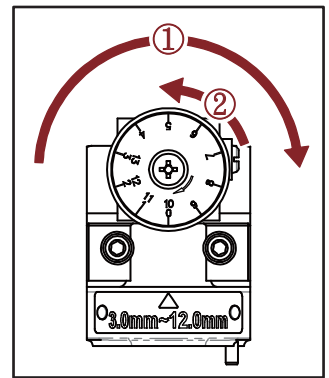
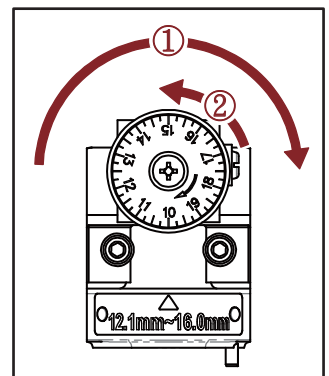

Fig. 6-1
Fig. 6-2
- Right Positioning Shelf: $\Phi 3.0 \text{ mm} - \Phi 12.0 \text{ mm}$ (Fig. 6-1)
- ① Turn it by clockwise to the end.
- ② Turn it by counterclockwise at "0".
- Left Positioning Shelf: $\Phi 12.1 \text{ mm} - \Phi 16.0 \text{ mm}$ (Fig. 6-2)
- ② Turn it by counterclockwise at "10".